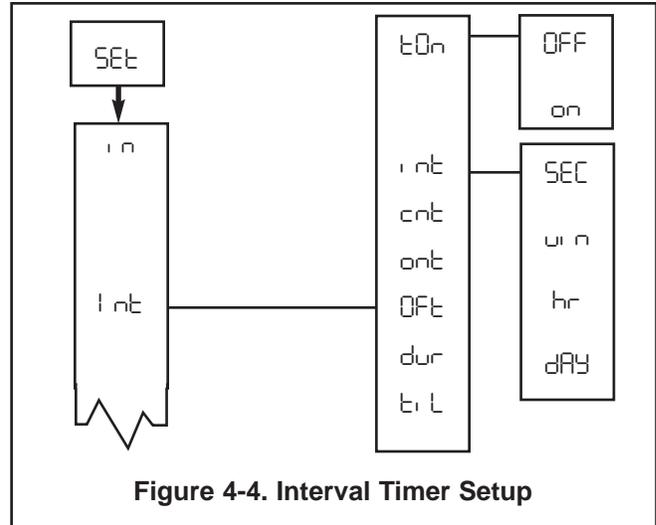

Figure 4-4. Interval Timer Setup
4.6.1 Interval Timer Set Up (*int*). Refer to Figure 4-4.